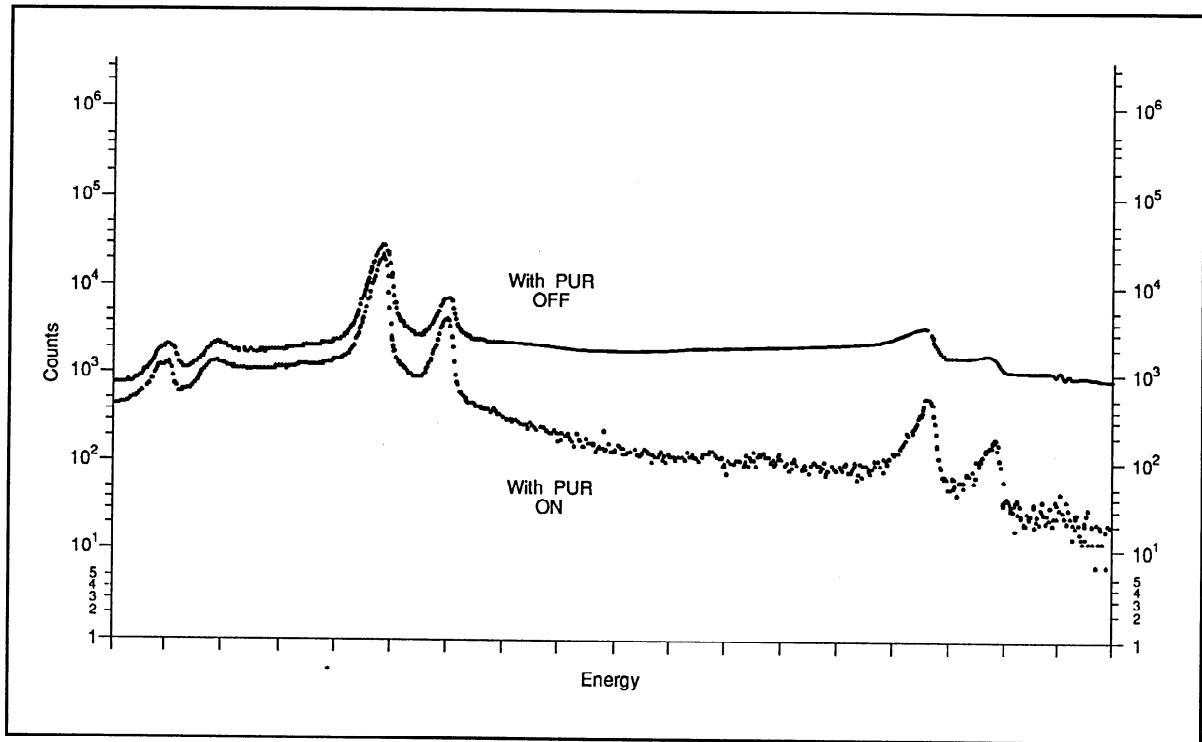

Figure 5.2  $^{57}\text{Co}$  at 50 kcps and 4  $\mu\text{s}$  Shaping
7. Accumulate a spectrum with the Model 2025 PUR ON/OFF switch OFF. Enable the MCA's OVERLAP function and compare the first half of the memory (PUR ON) to that of the second half (PUR OFF), see Figure 5.2.